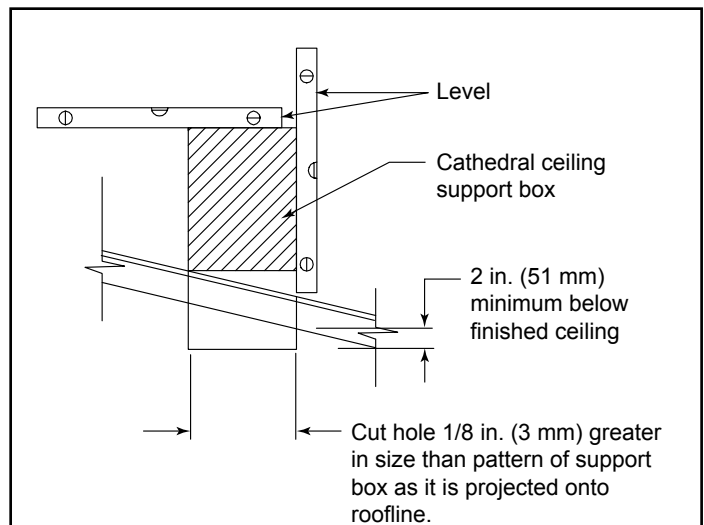

Figure 23 Cathedral Ceiling Support Box
- Lower the support box through the hole until its bottom is at least 2 in. (51 mm) below the ceiling. See Figure 23.